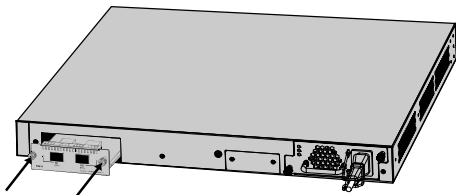

Figure 2-2 Install an interface card (2)
3. Hold the fastening screws on the front panel of the interface card, and gently push the interface card along the slot guide rail until the interface card is flush with the switch, as shown in Figure 2-2.